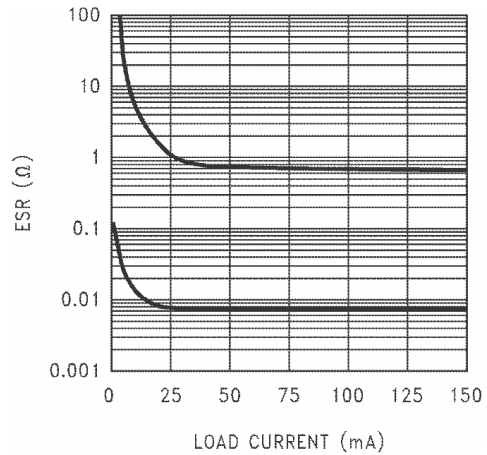

Figure 6-18. 2.2- $\mu\text{F}$  Stable ESR Range for Output Voltage  $\leq 2.3 \text{ V}$
- ESR range: see Figure 6-18 through Figure 6-20